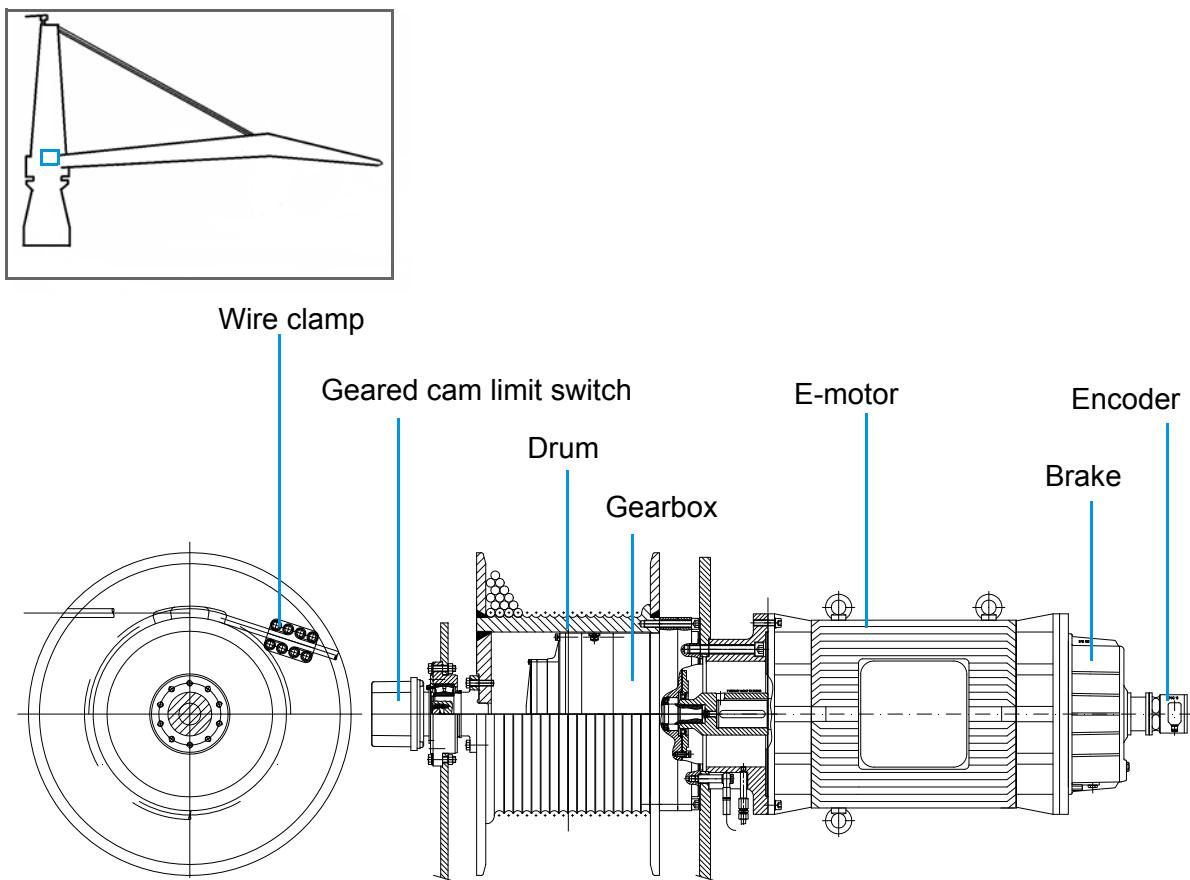

Figure 2-38: winch
The drive system of each load tugger contains one E-motor on the side of the drum, see Figure 2-38. More information about the drive systems is shown in Table 2-11. The drives of the winches are provided with a fail-safe brake positioned on the motor shaft. In case of an electrical power fail, the brake is mechanically actuated. The load tugger winches can operate in either speed mode or in constant tension (CT) mode. CT mode enables the crane operator to control a load automatically, with a constant line pull. The load tugger winches are each with a SWL of 10 mt and a maximum constant tension load of 2-8 mt.
The wire is clamped to the load tucker drum with a safety clamp, see Figure 2-38. The other end of the wire is fitted on a open wedge spelter socket. The bolts of the clamp must be tightened with a torque of 216 Nm (90%). More information about the wire is shown in Table 2-12.
All load tuggers are provided with a geared cam limit switch. This is used to count the number of revolutions of the winch drum and to determine the spooled length of the wire. It is located on the winch, see also Figure 2-38. For more information, see also Section 2.18.3: "Geared cam limit switch".
The load tugger systems are provided with two E-motor encoders. The E-motor encoders are provided on each of the drive motors, see Figure 2-38. These are integrated to measure the motor speed.